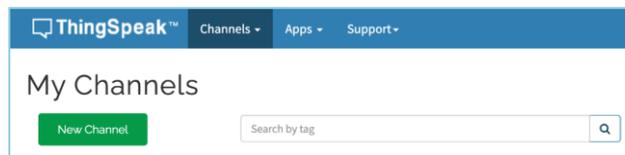

Figure B1
17. Under My Channels, click New Channel as in Figure B1.